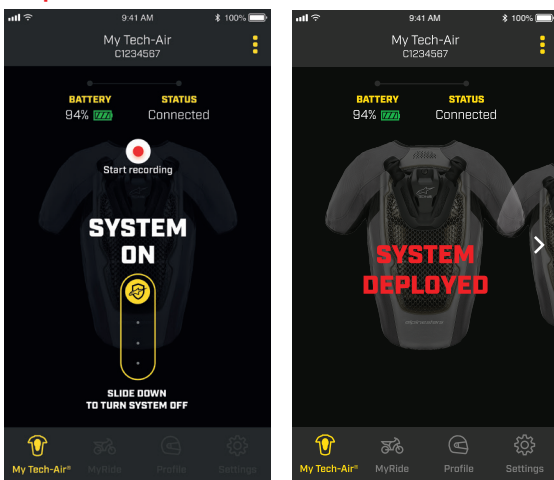

Figure 12
While riding "System On" mode is active and, accordingly, for safety reasons, the user cannot access most of the App functions. In case the System needs to be disabled by the user, such as during a heavy off-road riding session, the System can be turned off using the slide icon on the App (as shown in Figure 12). To reactivate open and close the Front Flap (2). In case of deployment, the App will show the relevant status with wording SYSTEM DEPLOYED as depicted in Figure 12.